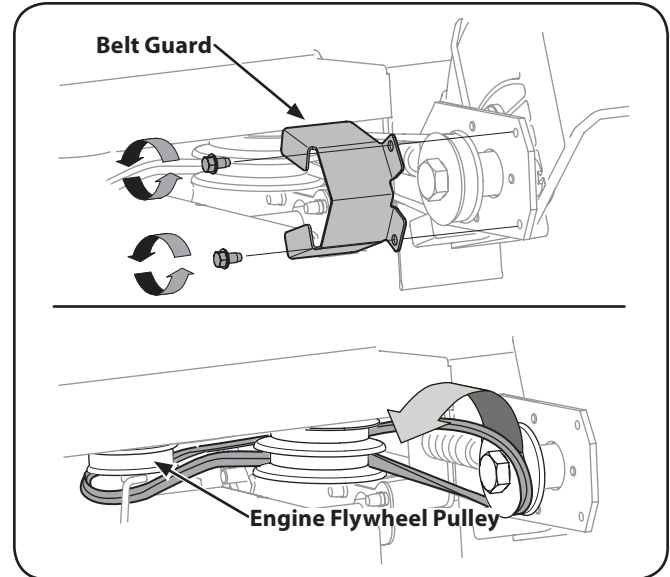

Figure 7-2
3. Remove the spindle sheaves belt guard by removing the two self-tapping screws which secure it to the blade plate assembly. See Fig. 7-2.
4. Carefully remove the belt from off of the pulleys, again making sure to note the orientation of the belt. Discard the belt. See Fig. 7-2.
NOTE: Make certain that the "V" side of the belt is seated into the top pulley and the flat side of the belt is seated into the bottom pulley. See Fig. 7-2.